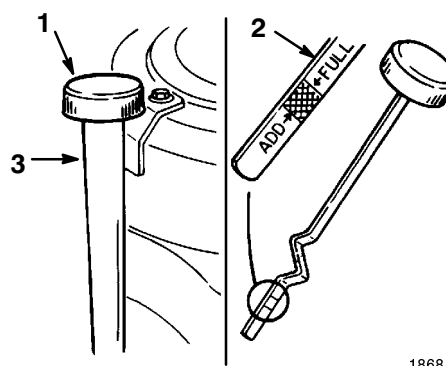

Figure 32
3. Clean around the oil dipstick (Fig. 32) so dirt cannot fall into the filler hole and damage the engine.
4. Unscrew the oil dipstick and wipe the metal end clean (Fig. 32).
5. Screw the oil dipstick fully onto the filler tube (Fig. 32). Unscrew the dipstick again and look at the metal end. If oil level is low, slowly pour only enough oil into the filler tube to raise the level to the “FULL” mark.
6. Slowly pour approximately 80% of the specified amount of oil into the filler tube (Fig. 32). Now check the oil level; refer to Checking Oil Level, page 34, steps 4-5.